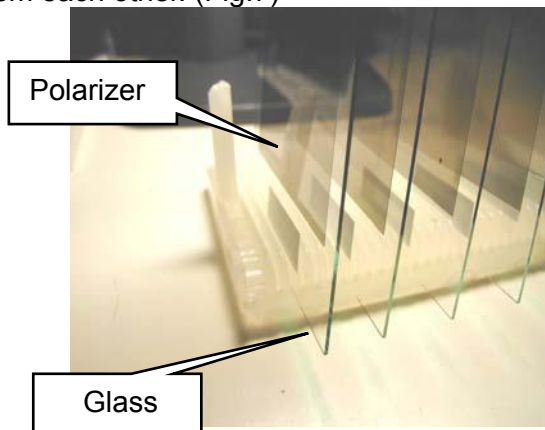

Fig.7
b. When the samples are put into the test, put them upright so that the glasses keep spaces between them each other. (Fig.7)